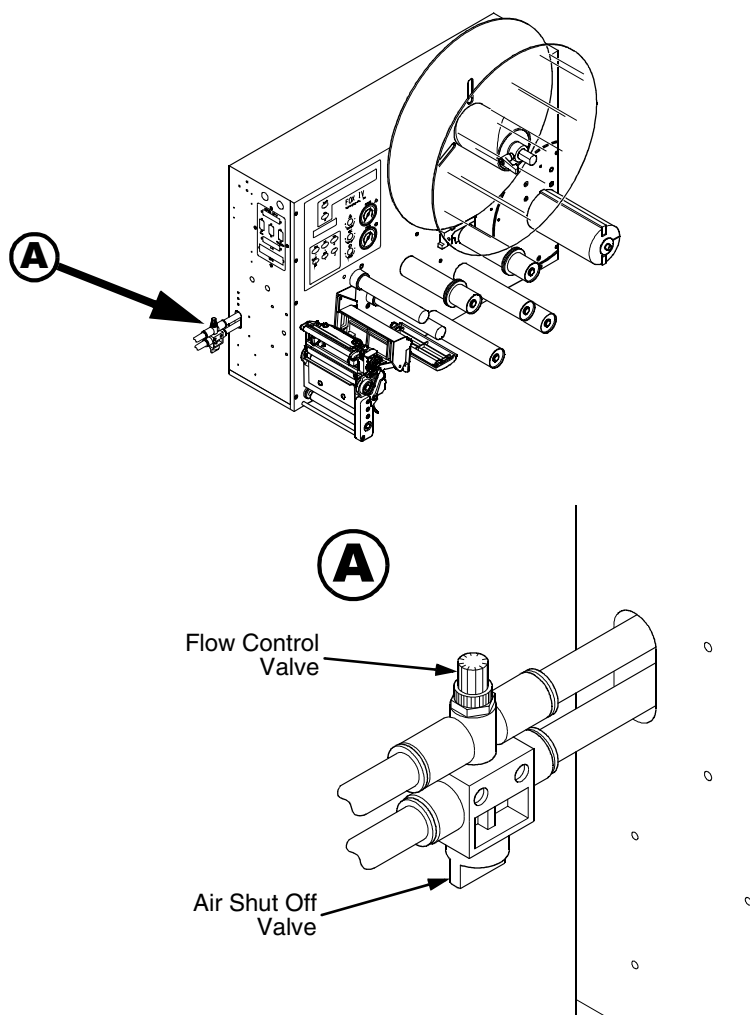

Figure 14. Return Speed Control Valve
2. Use the flow control valve (located on the air cylinder) to adjust the speed of the return stroke. (Figure 14.) Increase the speed by rotating the valve counterclockwise and decrease the speed by rotating the valve clockwise.